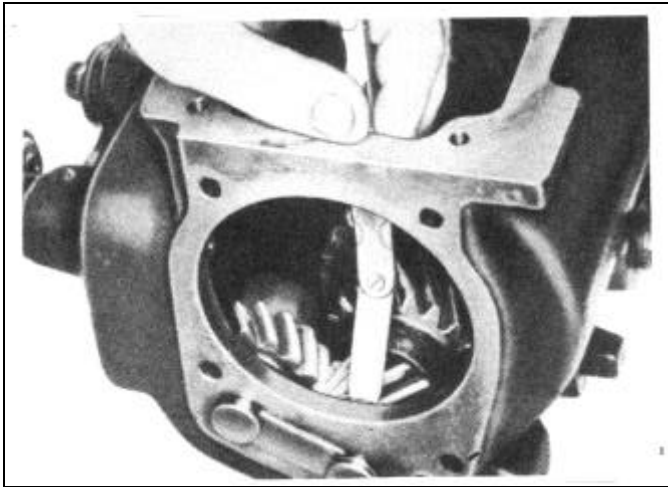

FIGURE 43
1. To install countershaft gear cluster assembly, place needle roller spacer tube over dummy shaft and insert in cluster. Apply viscous grease between shaft and inside of gear at each end and place needle roller washers in position against each end of spacer tube. Next, insert needle rollers (22) between inside of gear and dummy shaft, followed by a retaining washer at each end.
4. With a feeler gauge inserted between the rear thrust washers, check countershaft cluster end play, Figure 43. End play should range between .006" and .016"; if more than this, the thrust washers should be replaced.